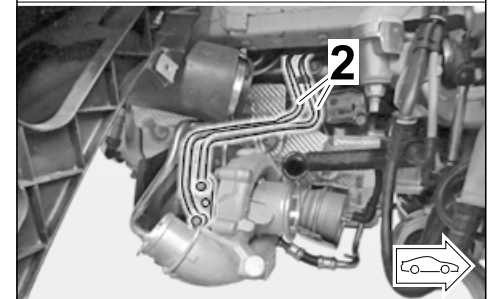

Figure 8
1.8.3 Remove flange with turbocharger coolant lines (cyl. 1–3/cyl. 4–6) (⇒ *Figure 8*) and collect coolant.